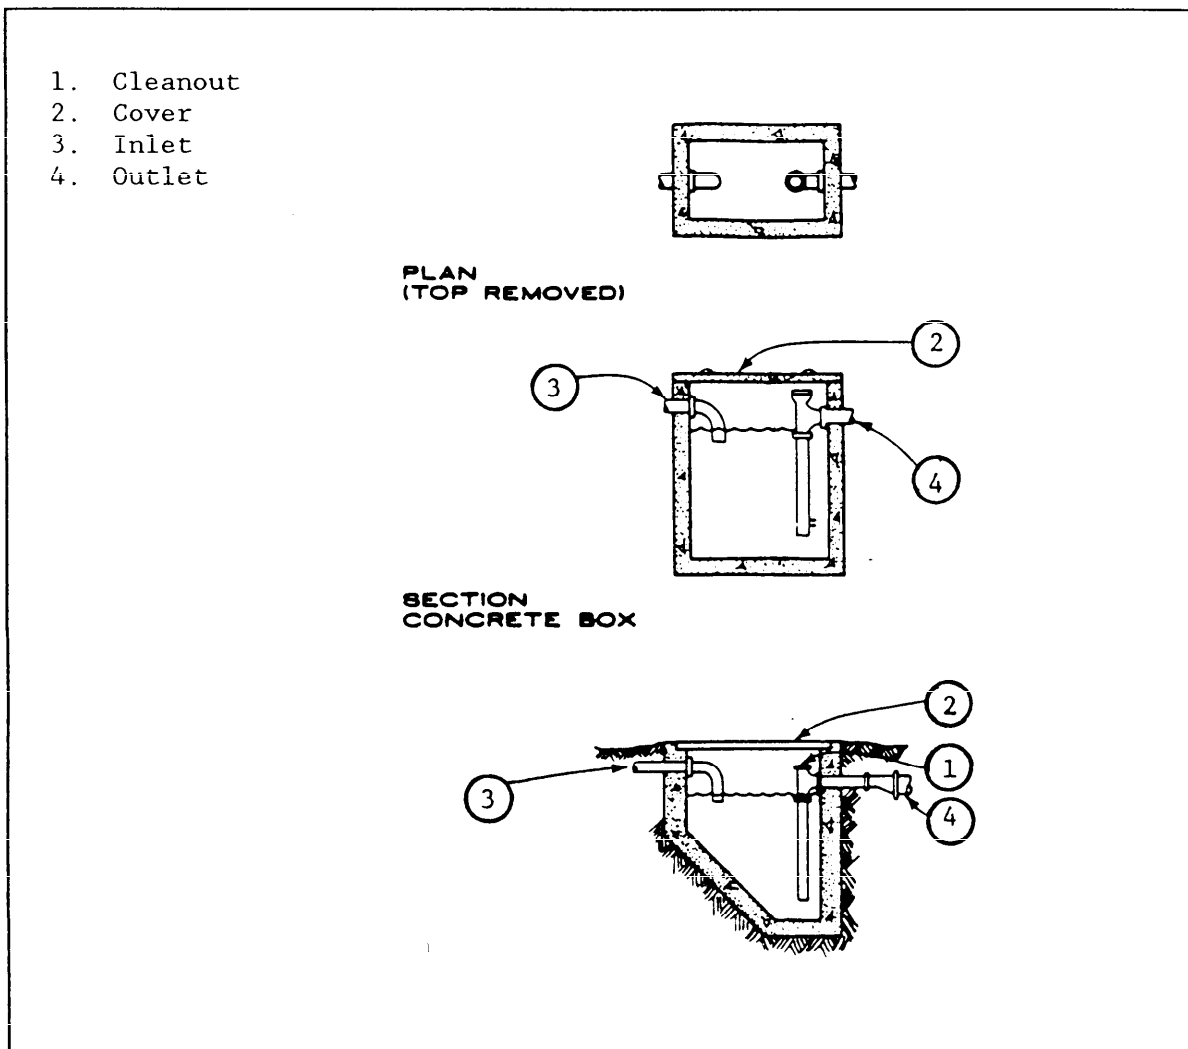

Figure 16
6.6.1 General Description. Grease traps are used to remove grease, fats, food particles, and other unsoluble materials from wastewater before they enter the main sewer. Figure 16 illustrates typical grease traps.